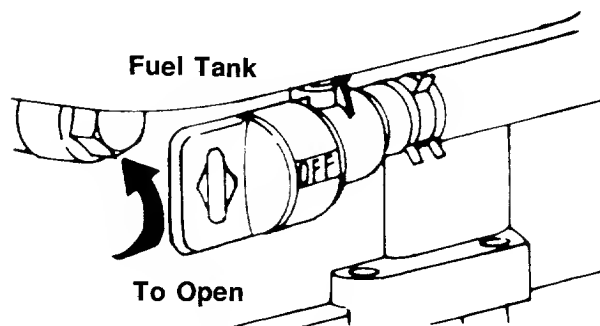

FIGURE 24.—Models 826R and 836R
3. **Models 826R and 836R:** The fuel shut-off valve is located beneath the fuel tank. The fuel shut-off valve should be in the open position. See figure 24. Open fuel shut-off valve if it is closed.